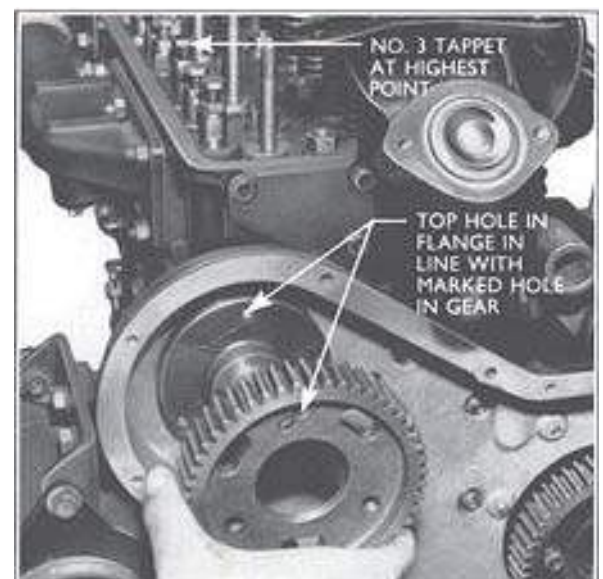

Fig. 11
5. Position the new camshaft gear on the camshaft so that the plain hole adjacent to the letter 'D' on the gear is in line with the tapped hole at the top of the camshaft flange (see Fig. 11). Secure the gear in position.